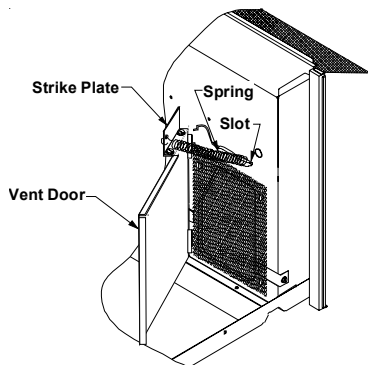

Figure 9
4. Attach one end of the spring to the slot in the partition panel where the door cable is coming through the panel. Attach the other end of the spring to the hole located in the strike plate which is fastened to the vent door (Figure 9).